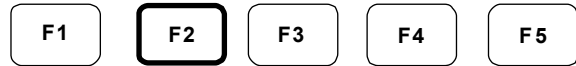
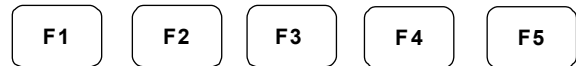

Figure 8-7. Setup Screen
Figure 8-8. Encoder-Configuration Screen
1. At the setup screen (Figure 8-7), press F2 (Enc.1) to configure encoder 1, or press F3 (Enc.2) to configure encoder 2. The encoder-configuration screen displays (Figure 8-8).
5. Press F3 (OK) to confirm the message.